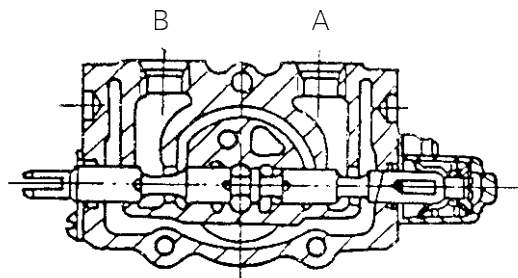

Fig.9-3
(2) Pushing-in of spool (See Fig.9-3)